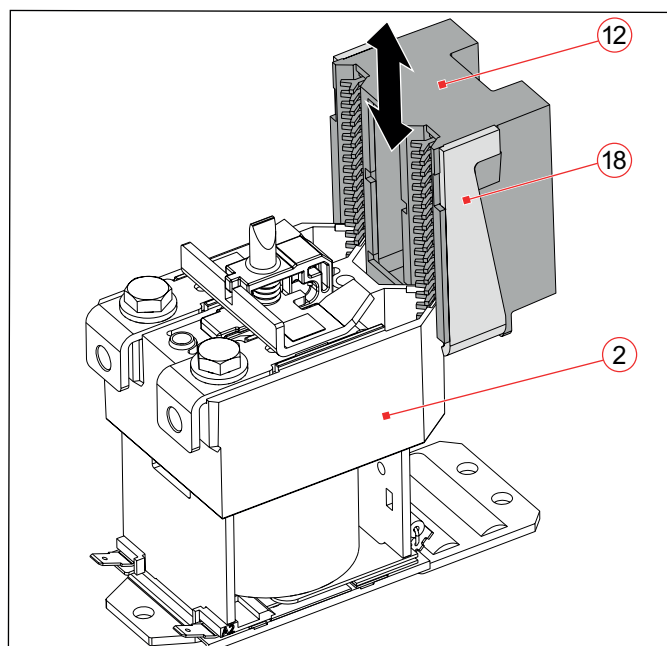

Fig. 71: C195 A/, C195 B/: Disassembling/assembling the arcing chamber (the figure shows C195 A/, the procedure is identical for C195 B/)
- ▶ Before installing the arcing chamber, make sure that the open end of the U-shaped metal bracket (18) points upwards, see **Fig. 71**.
- ▶ Push the new arcing chamber (12) into the contact unit (2) as far as it will go.
- ▶ Place the cover on the contact unit (2), see section **"Attaching the cover – type C195 A/, B/, S/, T/, W/"** on page 54 .